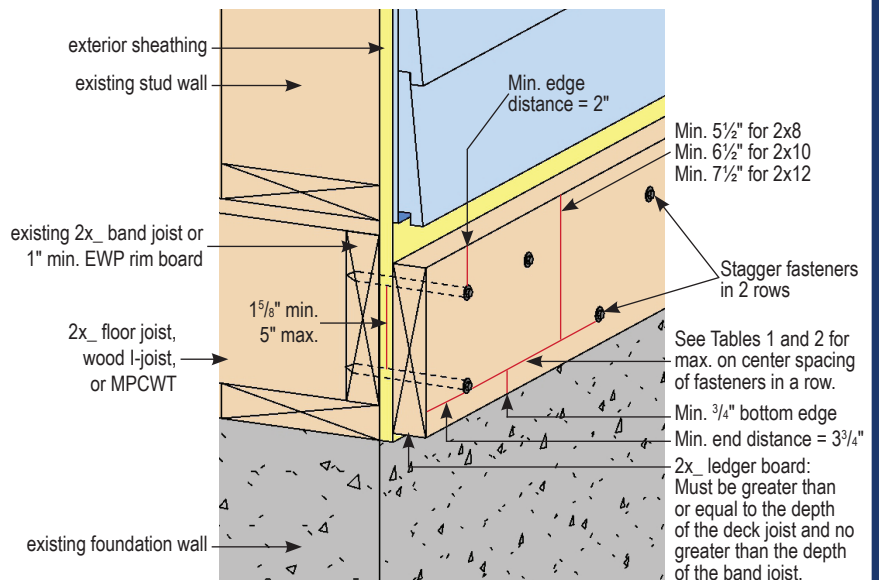

FIGURE 1. Placement of screws in ledgers.
- Stagger the fasteners from the top to the bottom along the length of the ledger while maintaining the required edge and end distances as shown in Figure 1, which provides a detail of a deck ledger connection.